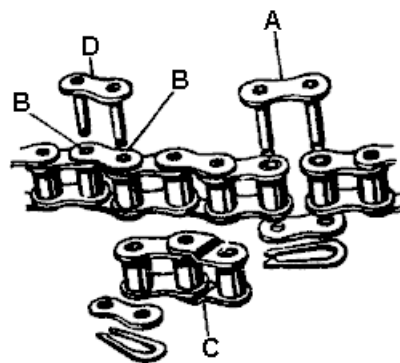
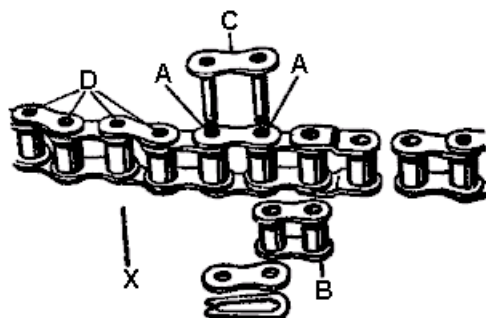

Fig. X8.
Fig. X9.
After a big mileage, the rear chain may have stretched so that no further adjustment is possible by the usual method. In this case it is possible to shorten the chain by one link or pitch, so increasing its useful life. First remove the single connecting spring link (A) securing the two ends of the chain, Fig. X8. If the chain terminates in two ordinary links as in Fig. X8 (in which case the chain will be an even number of pitches) extract the third and fourth rivets (B) from the end and replace the detached three pitches by a single connecting link (C). The connection is made with an additional spring link (D). If one end of the chain has a double cranked link, Fig. X9—in which case the chain will have an odd number of pitches—extract the second and third rivets (A), releasing the cranked link unit complete, which can be retained for further use. Replace with one inner link (B) and again connect up with an additional single connecting link (C).
If a roller or link has been damaged (X) Fig. X9, remove rivets (D), take out the damaged link and replace with one inner link, secured by two single connecting links.